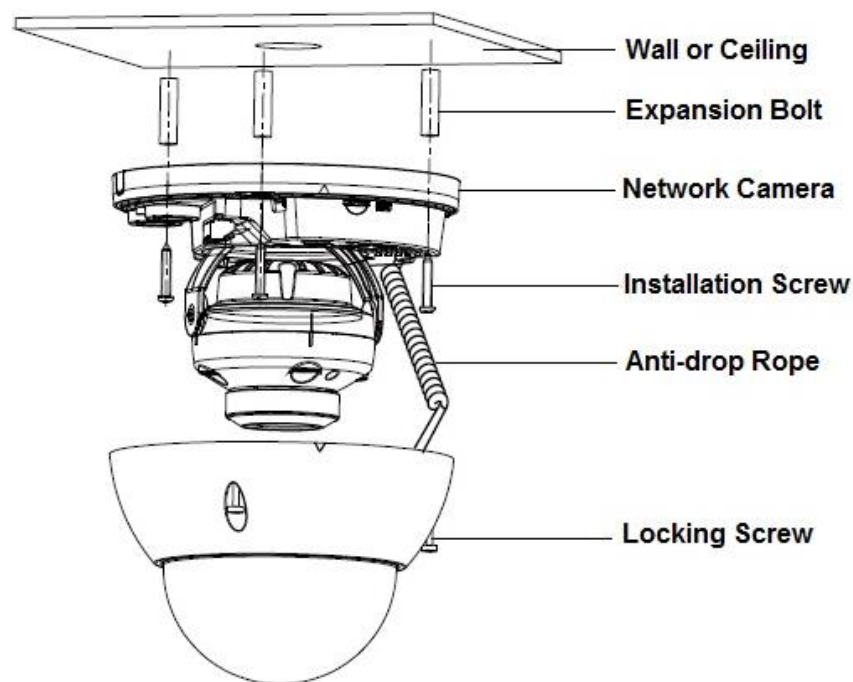
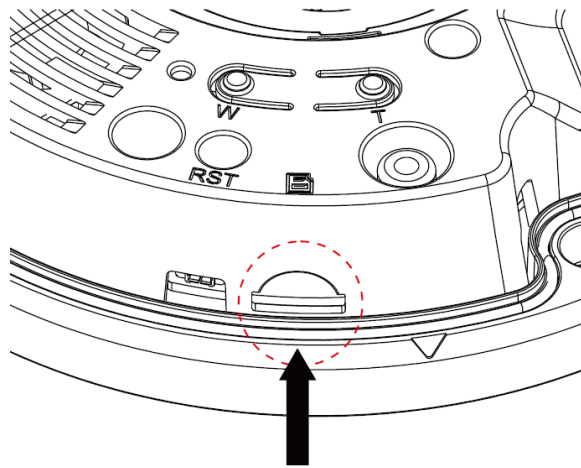

Figure 2-1
Figure 2-2
- The following installation figures are for reference only; please refer to Figure 2-1 and Figure 2-2 according to the actual product.
Find the "Micro SD" sign in the device; adjust the direction of Micro SD card according to the direction shown on the device, insert the card into the slot and install the Micro SD card well. See Figure 2-2 for more details.